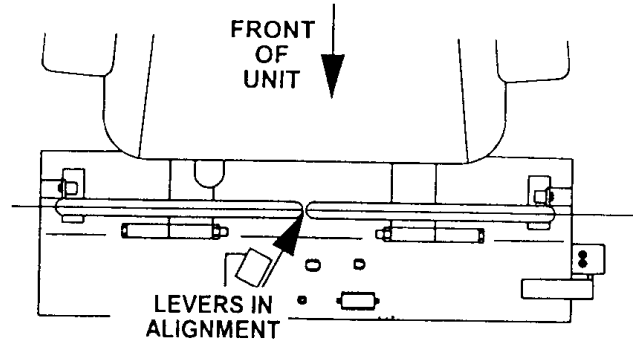

Figure 4
5. If the ends of the levers hit against each other, while in the drive position (Fig 4) (levers rotated in as far as possible) make adjustments by moving the levers outwards to the neutral lock position and carefully bend them outward. Move them back to the drive position and check for clearance. Repeat if necessary.